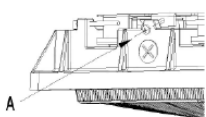

Figure 1
- STEP 1.** Loosen (but do not remove screw A (see Figure 1), which holds the mounting plate in place.